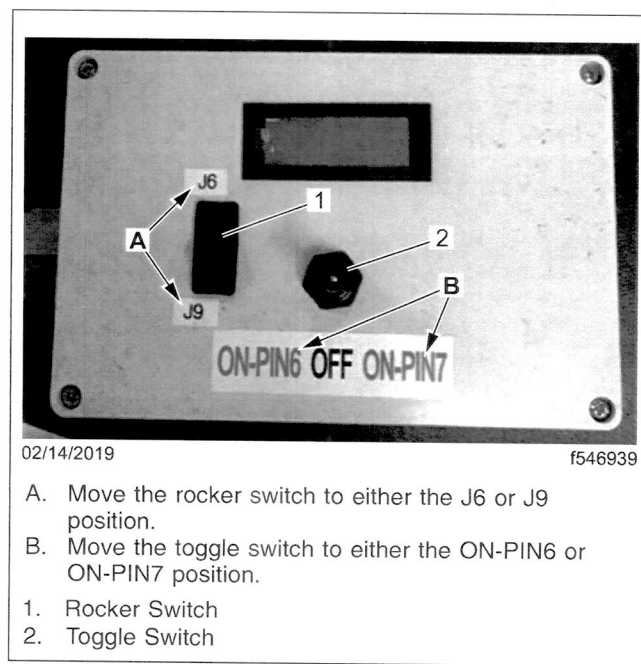

Fig. 4, Tester Components
8. With the test probe plugged into the F6 and F7 locations of the PDM, ensure that the tester rocker switch is on the J6 location. See **Fig. 4**, ref. A and item 1.
9. Move the momentary toggle switch on the tester to the ON-PIN6 location. See **Fig. 4**, ref. B and item 2. This will read the voltage drop on the J6 connector in the Pin 6 location.
10. Move the momentary toggle switch to the ON-PIN7 location. See **Fig. 4**, ref. B and item 2. This will read the voltage drop on the J6 connector in the Pin 7 location.
12. With the test probe plugged into relay 18, ensure that the tester rocker switch is on the J9 location. See **Fig. 4**, ref. A and item 1.
13. Move the momentary toggle switch on the tester to the ON-PIN6 location. See **Fig. 4**, ref. B and item 2. This will read the voltage drop on the J9 connector in the Pin 6 location.
14. Move the momentary toggle switch to the ON-PIN7 location. See **Fig. 4**, ref. B and item 2. This will read the voltage drop on the J9 connector in the Pin 7 location.